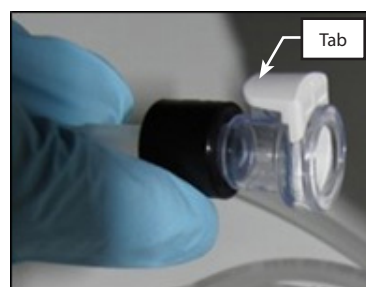

Figure 18
**IMPORTANT:** For all quick-connect fittings (Fig. 18) press connectors together until they click together securely. To disconnect, press tab on quick connect fitting and pull apart.